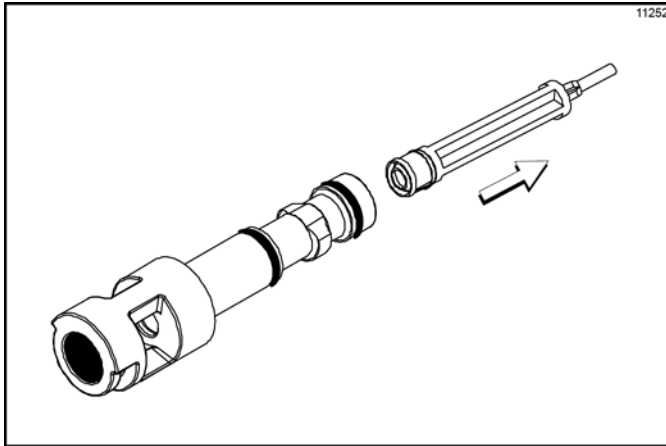

Figure 6-119
6. Remove the freezer door O-ring, front bearing, retainer pins, and draw valve spinner assembly. Remove the driven spinner from the draw valve by grasping the draw valve and pulling the driven spinner out. Remove the spinner shaft seal. (See Figure 6-119.)